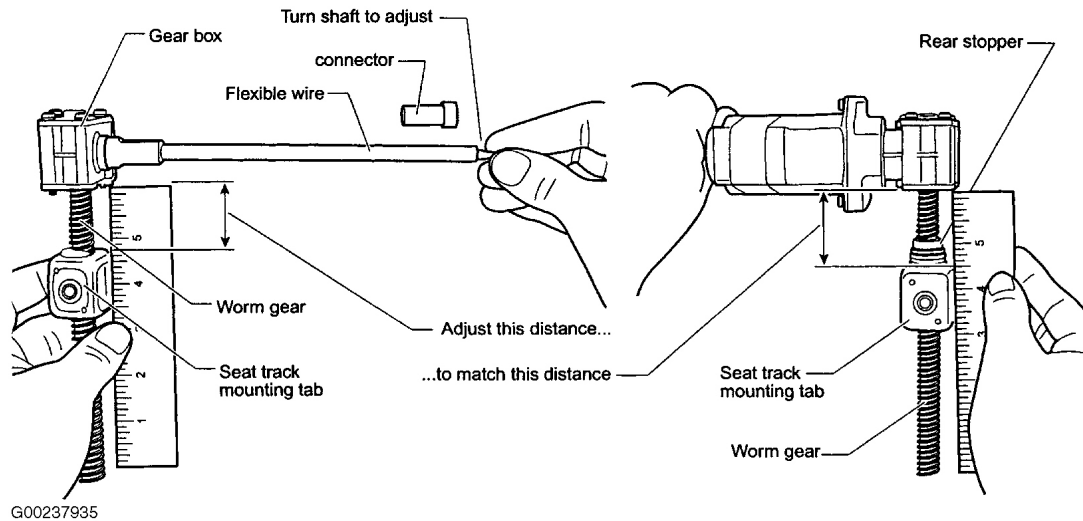

Fig. 9: Measuring Distance Between Gear Case & Mounting Tab
5. Make sure the new seat track mounting tab is touching the rear stopper, with the threaded shaft facing up (see **Fig. 9**).
- Measure the distance between the gear case and the mounting tab (see **Fig. 9**).
- Measure and adjust the other seat track mounting tab to the same distance (see **Fig. 9**).